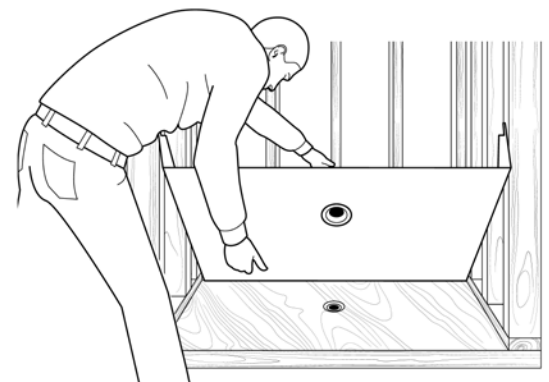

figure 6
2. Place shower pan prior to the installation of the wall substrate. The wall substrate, once installed, must meet or exceed the thickness of the flange so the panel, once installed, remains flush against the wall. To install the pan, carefully set it, back-first, into the opening and lower it so the pan drain and the floor drain align. (see figure 6)